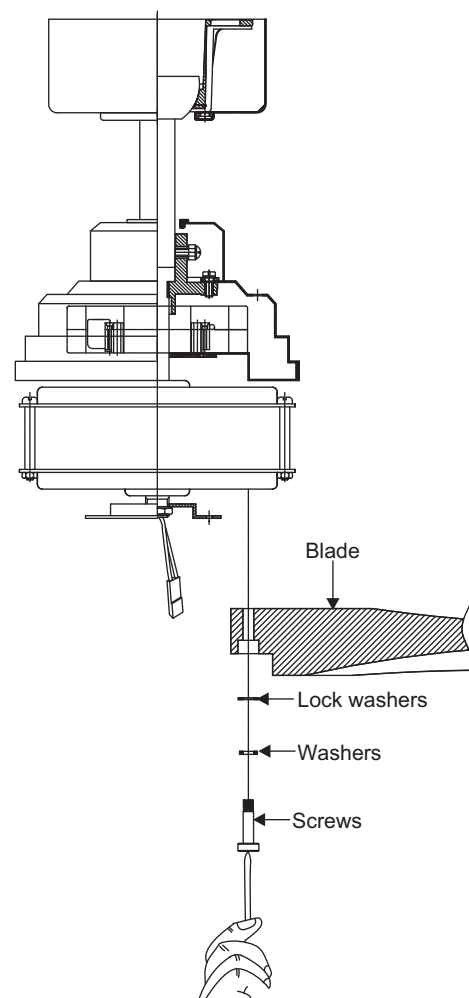

Figure 12
**Step 1.** Align the holes from the blade to the holes from the motor, and secure the blade in place with screws, washers and lock washers provided. (Fig. 12)